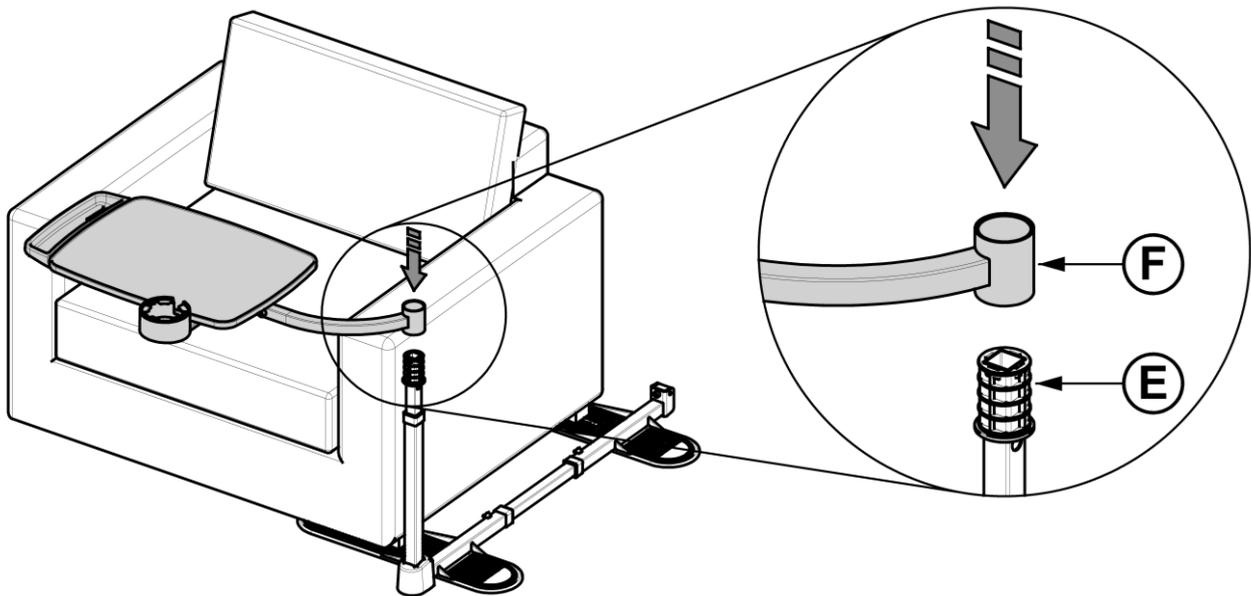

FIGURE 27
27. Slide tray and arm assembly onto top of Internal Upright **E**, as shown in *FIGURE 27*.